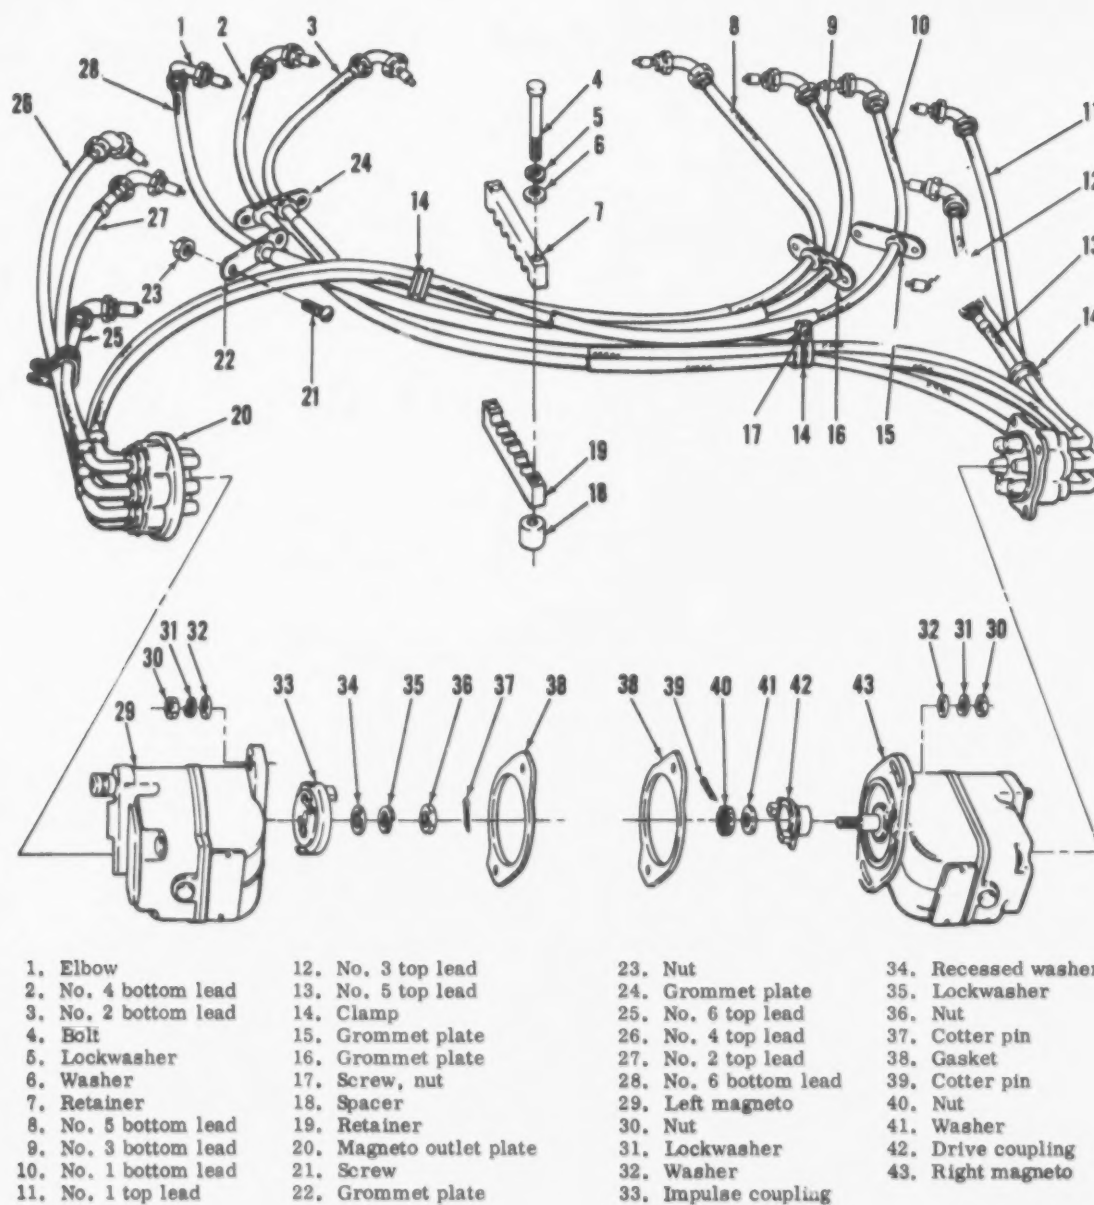

Figure 5-33. Ignition system schematic
a. Removal. (1) Ensure ignition switches are in OFF position.
(2) Remove necessary engine cowlings.
(3) Remove screws securing magneto outlet plates (20, figure 5-33) to magnetos (29 and 43) and remove plate with high tension leads attached.
5-160. The magnetos are flange-mounted, six-cylinder, single magnetos of opposite rotation. The right magneto (43, figure 5-33) turns counterclockwise and the left magneto (29) turns clockwise. Each magneto has a rotating two-pole magnet and stationary coil, giving two sparks for each complete revolution. The magneto is driven at one and one-half times crankshaft speed, since the six-cylinder engine requires one spark per cylinder for every two crankshaft revolutions.
(4) Remove ground wires from magnetos (29 and 43).
(5) Remove nuts (30), lockwashers (31), and washers (32) securing magnetos to engine.
(6) Lift magnetos from engine.
(7) Remove gaskets (38).
(8) On right magneto (43), remove cotter pin (39), nut (40), washer (41), and drive coupling (42).
(9) On left magneto (29), remove impulse coupling (33). (Refer to paragraph 5-161.)
b. Inspection. (1) Inspect breaker assembly compartment for cleanliness.
d. Installation. (1) On left magneto (9, figure 5-33), install impulse coupling (33). (Refer to paragraph 5-161.)
(2) On right magneto (43), install drive coupling (42), washer (41), and nut (40). Secure nut with cotter pin (39).
(3) Locate correct crankshaft timing position as outlined in paragraph 5-159.
(4) Check magneto internal timing and adjust, if necessary, as prescribed in step c.
(5) Turn each magneto drive gear so chamfered tooth on magneto distributor gear aligns with pointer.
(6) Install magnetos (29 and 43) on engine, using new gaskets (38). Install washers (32), lock washers (31), and nuts (30). Tighten nut finger-tight.
(7) Connect one of timing light red leads to primary breaker point on each magneto, and connect black lead to ground.
(8) Shift each magneto in slotted mounting holes to a retard position. Turn timing light switch ON and slowly shift magneto toward advance position by tapping lightly with a mallet until breaker points just open. Tighten magneto mounting nuts (30) and recheck timing as described in step e.
(9) Turn ignition switches OFF.
(10) Turn timing light switch OFF and disconnect leads.
(11) Install ground wires.
(1) Remove the high tension lead plate (item 20, figure 5-33) from left and right magnetos.
(2) Locate correct crankshaft timing position as outlined in paragraph 5-158.
(3) Turn crankshaft in direction opposite normal rotation one-fourth turn.
5-162. The left magneto incorporates a type 1C-H impulse coupling (33, figure 5-33), consisting of three major parts: body, spring, and cam assembly. A stop pin in the magneto flange engages the flyweights which, when tripped, actuate the impulse coupling. The impulse coupling rotates the magnet (between impulse trips) faster than engine cranking speed, thus generating a better spark for starting and automatically retarding the spark when starting the engine. When the engine is operating, the impulse coupling acts as a drive coupling for the magneto.
a. Removal. (1) Remove left magneto (29, figure 5-33) in accordance with paragraph 5-159.
(2) Remove cotter pin (37), nut (36), lockwasher (35), and recessed washer (34) securing impulse coupling (33) to left magneto (29).
(3) Using puller, part No. 11-702, remove impulse coupling (33) from shaft of magneto rotor.